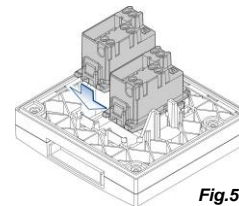

Fig.5
- After connecting the conductors, press the modules from the bottom (Fig.5) and carefully attach the top lid to the box. Make sure the seals are not released or deformed between the box and the upper part.
- Insert the modules as shown in Fig.5 and place the enclosure on the wall.